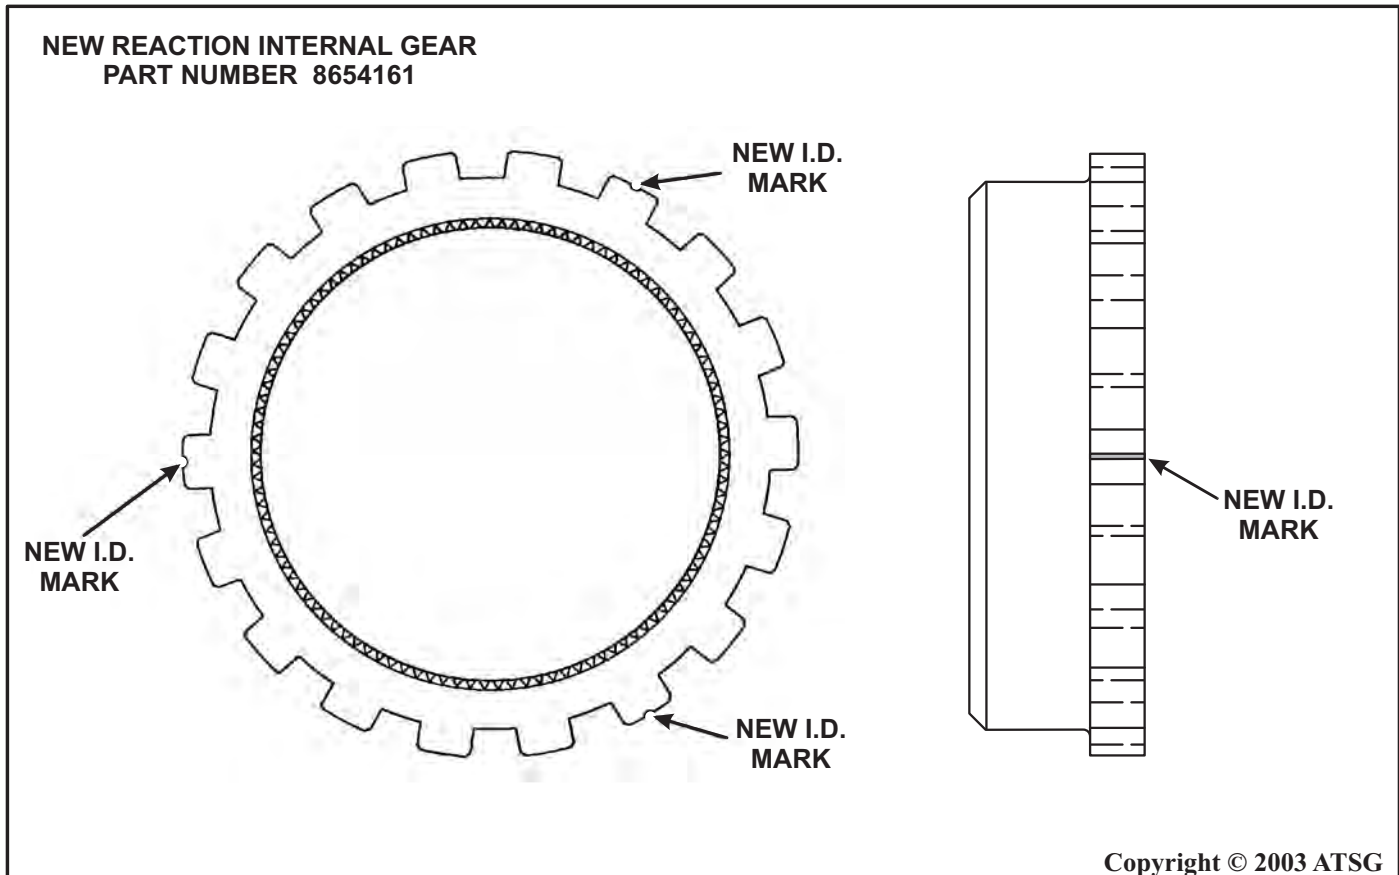

Figure 9
CHANGE: Beginning on January 9, 1984 all THM 700-R4 transmissions were built with a new Reaction Internal Ring Gear, with no dimensional changes, as shown in Figure 9.
- (1) **REAR INTERNAL RING GEAR** - Manufactured with an improved process to eliminate air bubbles from forming inside and prevent ring gear breakage. Since the improved ring gear is dimensionally the same as the previous, identification marks were added. The new ring gear has broached lines on three parking lugs and are equally spaced around the ring gear, as shown in Figure 9.
The new rear internal ring gear will back service all previous models of the THM 700-R4 transmission and is highly recommended to use only the ring gear with markings as shown in Figure 9.